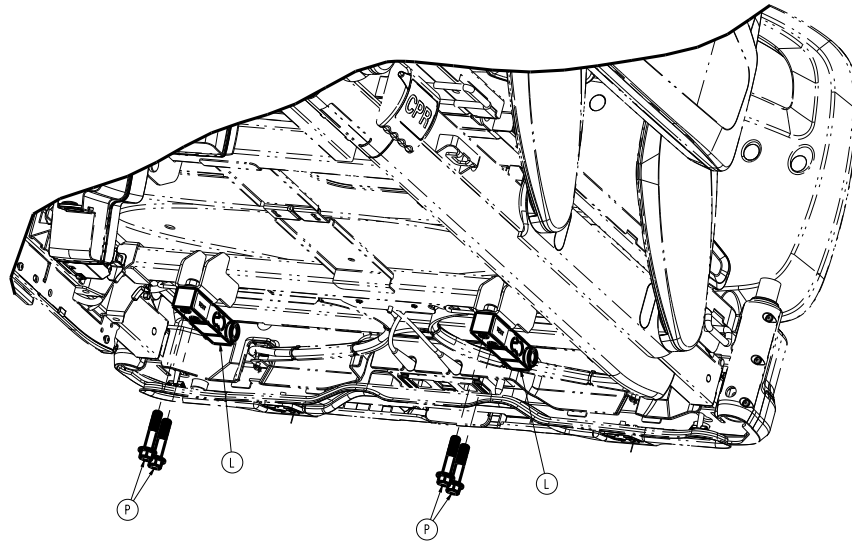

Figure 51 – Replacing the load cell
8. Unplug the load cell (L) (Figure 51).
11. Remove the load cell. Using a ratchet, 9/16" socket, and a 9/16" combination wrench, remove the two bolts (P) and nuts that secure the load cell (L) to the litter frame (Figure 51). Save the bolts and nuts.